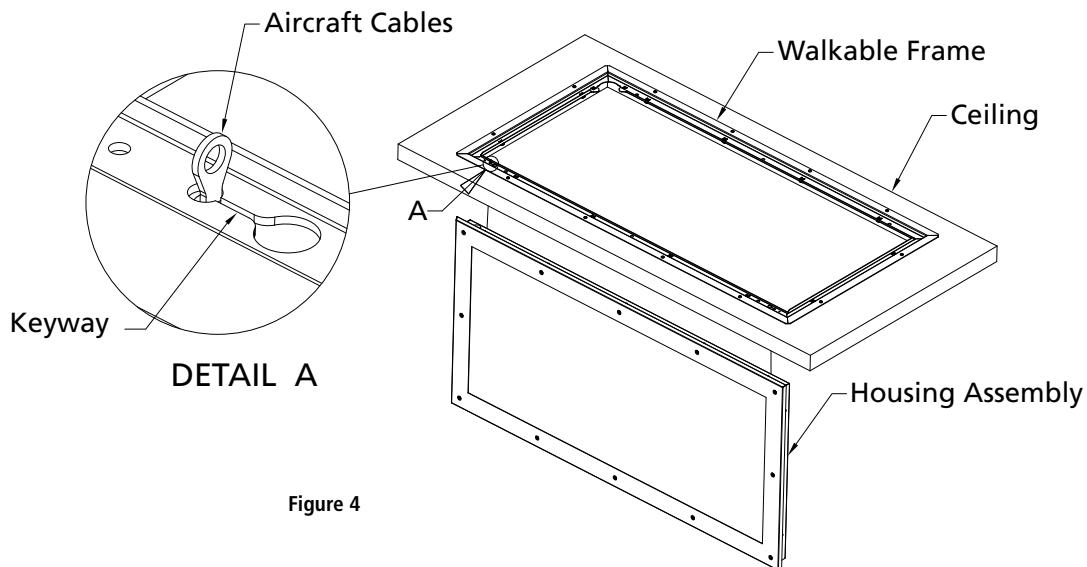

Figure 4
Using two people to lift the Housing Assembly and suspend it using the two (2) provided aircraft cables (see Figure 4, Detail A). Insert the Aircraft Cable end(s) into each keyway to temporarily support the fixture in preparation for the next step. This step is performed from the room side.